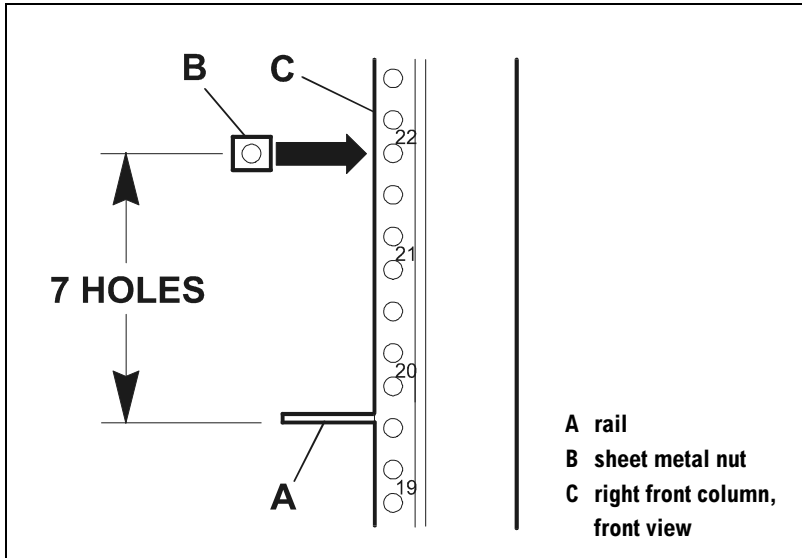

Figure 22 Rack Front Preparation: Mid-EIA Unit Rail Position
- If the rail (A in Figure 22) falls in the middle of an EIA Unit, count seven holes up from the bottom of the rail and install the sheet metal nut.